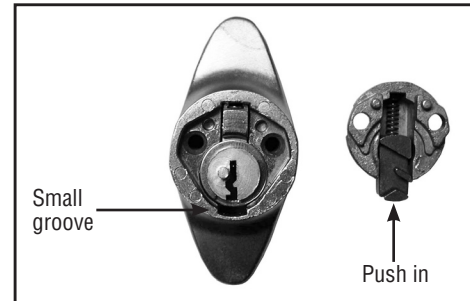

Figure 7
7. It is now time to place the cap back on the end of the handle. *This can be a bit tricky.* You must hold in the latch piece while placing the cap on the back of the lock. The bottom of the latch piece must fit into the small groove at the bottom of the cylinder. (Fig. 7)